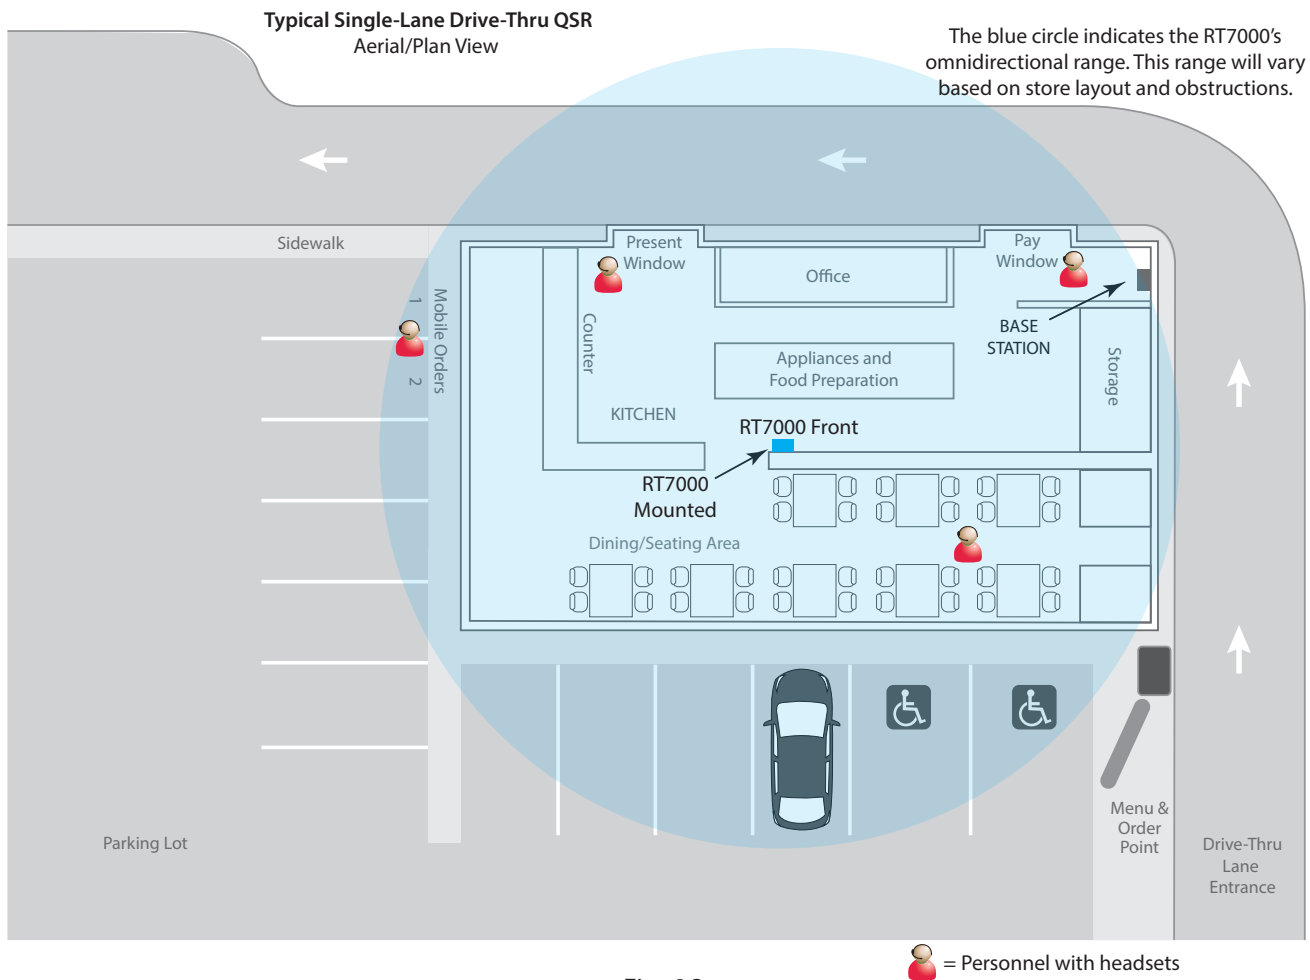

Fig. 12
1. Survey the premises to determine a good location to mount the RT7000 (see "RT7000 Notes" on page 3 and Fig. 12 on page 4).